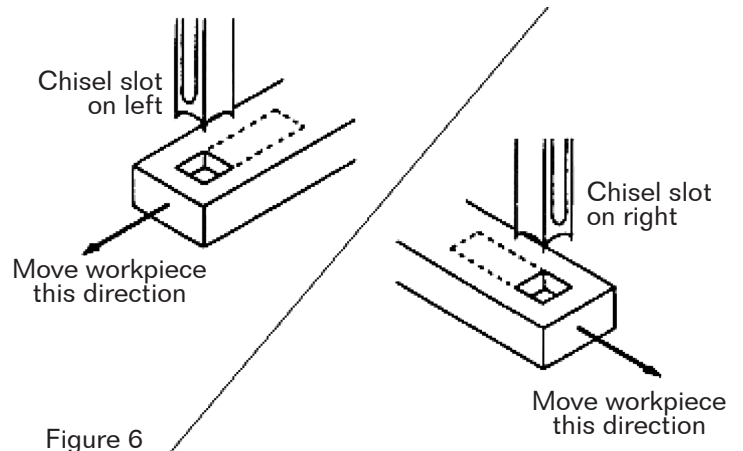

Figure 6
5. After the first cut, the workpiece is moved along with the right handwheel for each successive cut. The direction of movement must allow the chips to clear freely. Move the workpiece so that the slot in the chisel is releasing chips into the already cut part of the workpiece. See Figure 6.